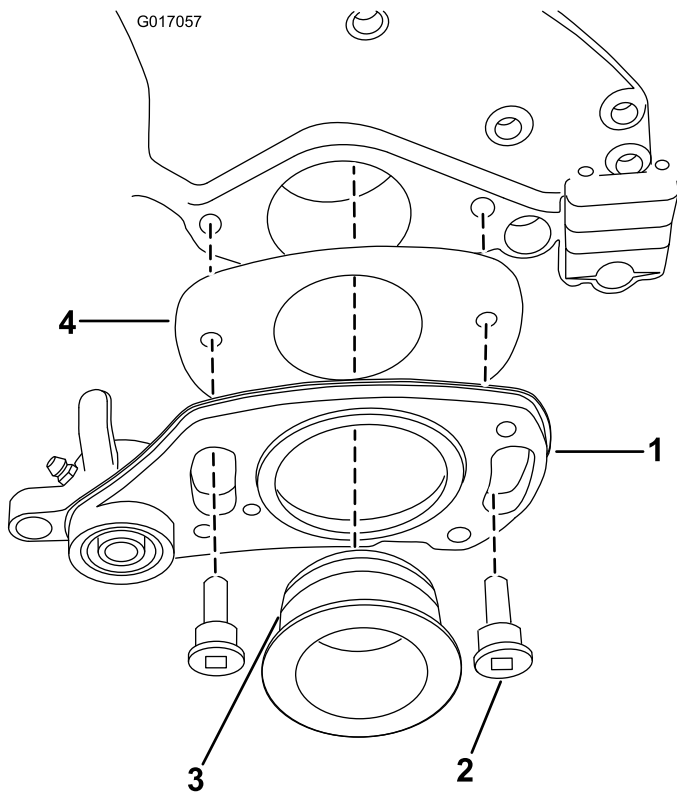

Figure 4
8. Slide the shim plate on to the rear of the left-hand drive assembly as shown in Figure 4.
9. Put a light coating of grease on the O-ring and the pilot bore (Figure 4).
10. Secure the left-hand drive assembly using 2 shoulder bolts as shown in Figure 4.